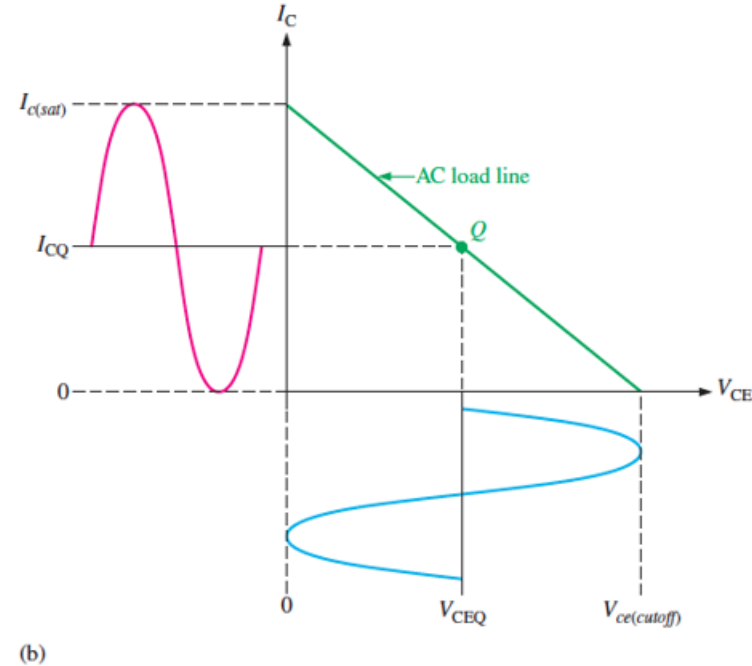

Figure 5
- This operation is indicated in Figure 5. The peak value of the collector current equals I_{CQ} , and the peak value of the collector-to-emitter voltage equals V_{CEQ} in this case. This signal is the maximum that can be obtained from the class A amplifier.